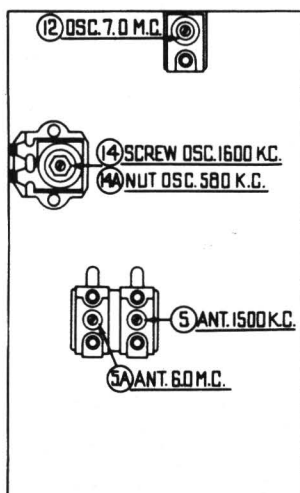

Fig. 3—R.F. Compensators Underside of Chassis
1. Set range switch in position No. (1) (Broadcast). Turn signal generator and receiver dials to 1600 K. C. Then adjust (14) Osc. "Screw", and (5) antenna for maximum output.
2. Turn signal generator and receiver dials to 580 K. C. and adjust compensator (14a) Osc., "nut"—see Fig. 3—as follows: To adjust compensator (14a) the tuning condenser must be rolled for maximum output, thusly: First turn the compensator (14a) for maximum output. Then vary the tuning condenser for maximum output about 580 K. C. Now retune compensator (14a) and again vary the tuning condenser back and forth about the 580 K. C. dial mark for maximum output.